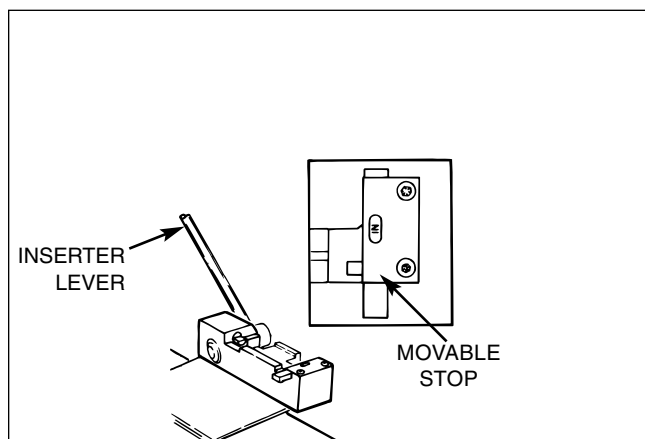

FIGURE 3-8, Open Position
3. Move Lever to open position and slide Movable Stop to IN position (see Figure 3-8).